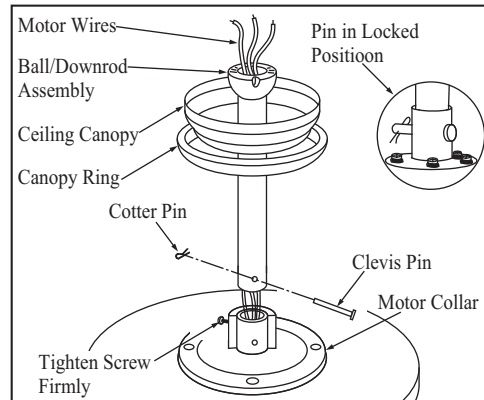

Figure 7
3. Route wires exiting from the top of the fan motor through the canopy ring. Make sure the slot openings are on top. Route the wires through the canopy and then through the ball/downrod assembly. (Figure. 7)
5. Align the holes at the bottom of the downrod with the holes in the collar on top of the motor housing. (Figure 7) Carefully insert the clevis pin through the holes in the collar and downrod. Be careful not to jam the pin against the wiring inside the downrod. Insert the cotter pin and bend to ensure security, as noted in the circle inset of Figure 7.
6. Tighten two set screws on top of the fan motor firmly. (Figure 7)